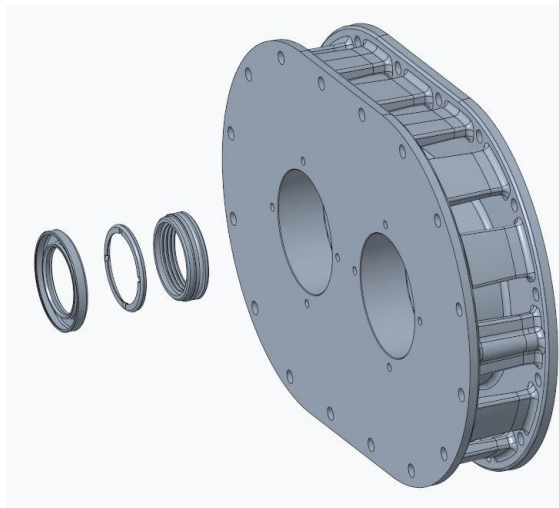

Fig. 1
2. Verify correct orientation of the NDE side plate (23) using markings made during disassembly.
3. Install main air seals (2) with the step facing the outside of the NDE side plate (23). Press the main air seal retainers (3) with the cup-side down into the NDE side plate (23) using press tool 564-053. Press until the retainer (3) is firmly seated on top of the main air seal (2). See figure 1 for correct orientations for the seal and seal retainer.
4. Press the oil seals (1) into the NDE side plate (23) with the lip facing upwards using press tool 564-024 until seated. See figure 1 for the correct oil seal orientation.